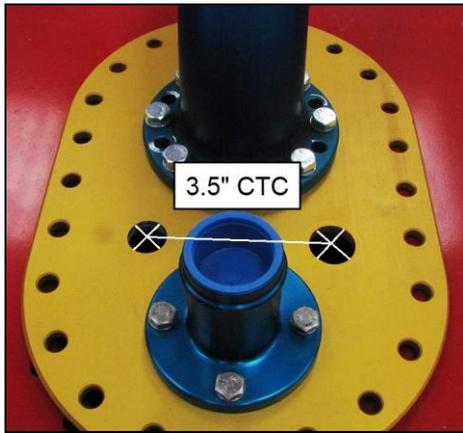

Figure 13
8. Place fill plate on the cell and measure where the feed and return hose should be placed. Drill a  $5/16$ " hole (hole on right - **Fig. 13**) for the AT983210ERL 10AN feed hose bulkhead and a  $3/4$ " hole (hole on left - **Fig. 13**) for the AT983208ERL 8AN return hose bulkhead (bulkheads included in LS0010ERL hose assembly). Make sure there is at least 3.5" center to center on the holes drilled.